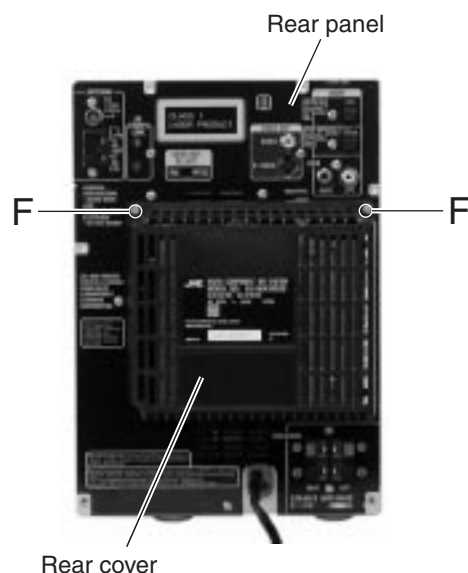

Fig.11
■ Removing the rear cover/ rear panel (See Fig.11~15)